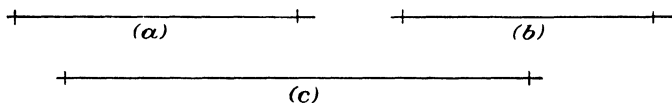

Fig. 135.
1. Divide the lines in Fig. 135 into 5 equal parts after drawing them in your notebook. Check the results with a steel rule.